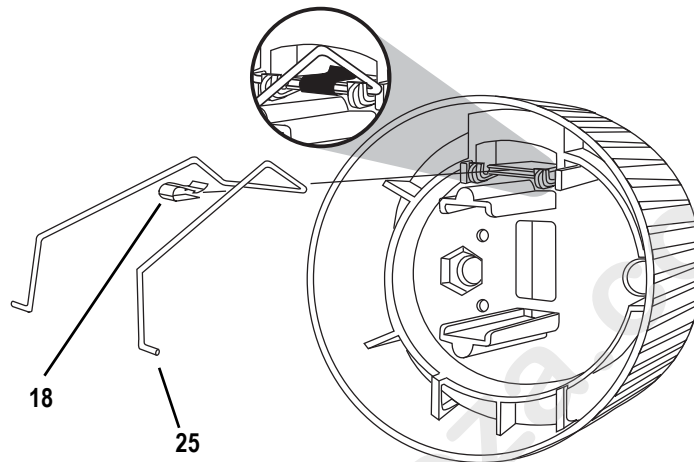

Figure 3
- Step 1: Set the crossbar of the retainer clip (25) under the two hooks on the clip bracket as shown in Figure 3.
- Step 2: Place the Tinnerman clip (18) over the retainer clip crossbar between the two hooks and press it down firmly until it snaps into place.